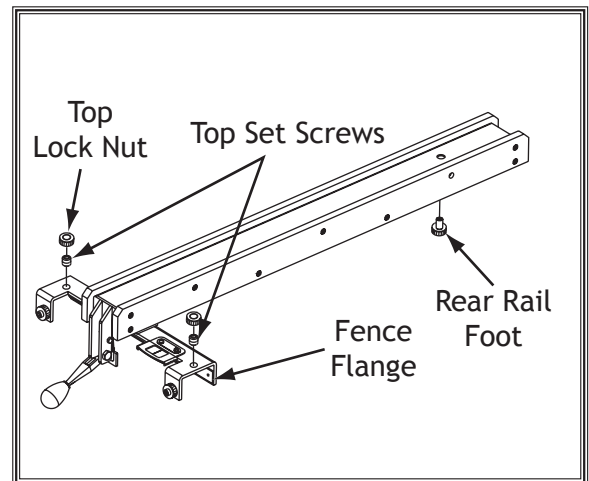

Figure 104. Fence components used to adjust fence height and squareness.
6. Loosen the top lock nuts on the fence flange and the lock nut on the rear rail foot (see **Figure 104**).